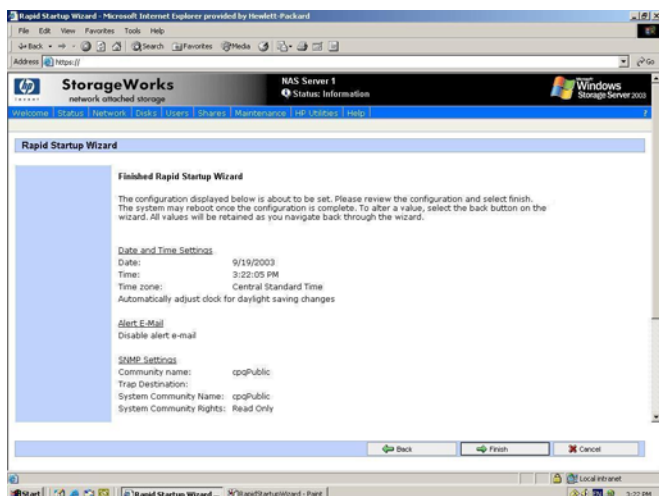

Figure 2 Rapid Startup configuration review screen
8. Verify that the information is correct when the configuration review screen is displayed as shown in Figure 2.